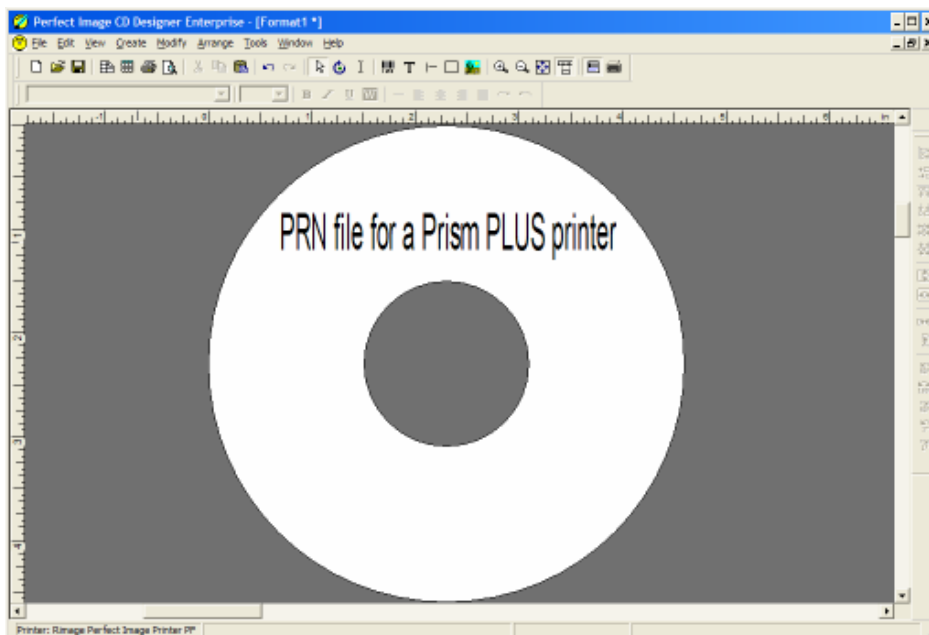

fig.1 CD Designer software.
1. From your Start Menu Open the *SCRIBE EC Alignment Utility* (**fig. 1**). It will be located in the folder designated when you installed the alignment utility. Choose the appropriate COM Port that the Scribe EC loader is connected to then Click *Start Test*.
(fig. 1)
8. From the Start Menu Open the *SCRIBE EC Alignment Utility*. It will be located in the folder designated when you installed the alignment utility. Choose the appropriate COM Port Number, which the Scribe EC Loader is connected to, then choose the **All other printers or drive bay** then Click the **Start Test** button (fig. 1).
- 2) Create a design fig. 1. Save all projects as a CD designer file for future implementation. Go to **File => Save As...** type in a file name.